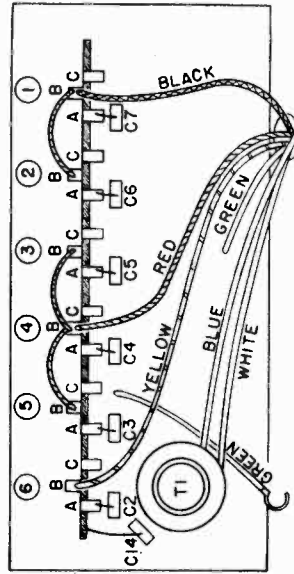

Fig. 3. Rear View of Push-Button Assembly.
1. Place the switch in a position which corresponds to Fig. 3 above. Unsolder the molded mica condenser (C2 or C3 or C4 or C6 or C7) lug A of the station to be changed and, with a sharp knife, cut the lead to the disconnected MOULDED MICA CONDENSER WHICH IS ATTACHED TO THE BUTTON IN USE. To allow for future changes, tape up the end of the disconnected molded condenser.
2. Push the button in as far as it will go and, holding it in firmly, tune in the desired station by means of the selector knob. See Fig. 3.